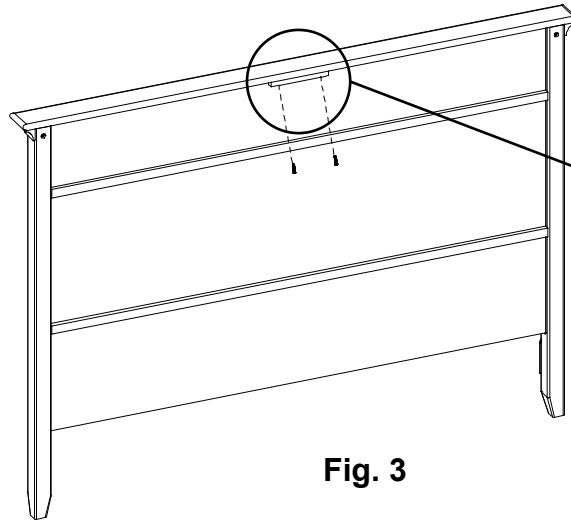

Fig. 3
3. Attach the Top Assembly (YH) to the Headboard Assembly (Ac) by inserting two #8x1-1/4" Pan Head Screws (YI) into the predrilled holes in the block that is attached to the Headboard Assembly (Ac). See Figures 3 and 3a.